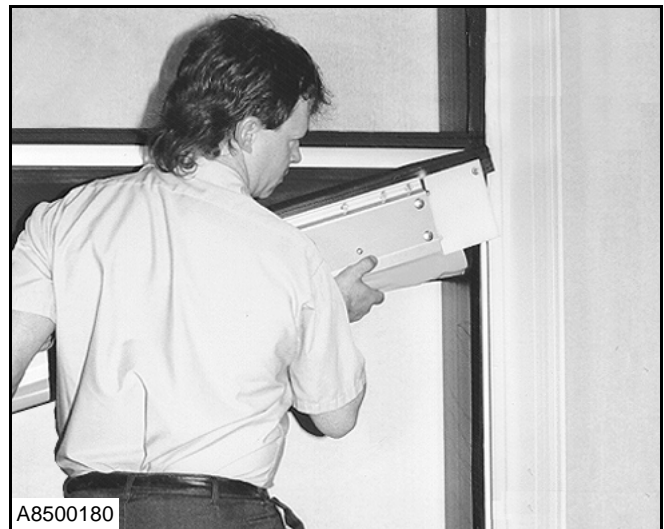

Figure 52
1. Position the breakaway tabs on one end of the bottom bar assembly in the side column channel. Lift the other end of the bottom bar and position the breakaway tabs in the side column channel. (See Figure 52.)